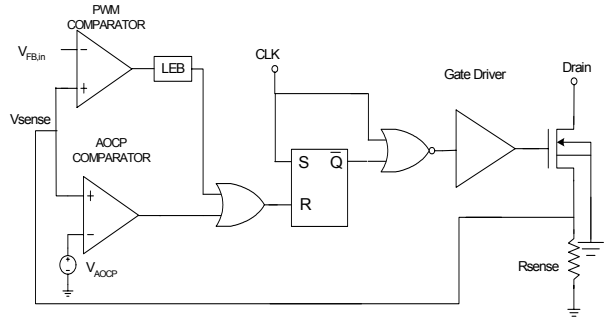

Figure 7. Abnormal Over Current Protection (AOCP)
**4.3 Abnormal Over Current Protection (AOCP) :** Even though the FPS has OLP (Over Load Protection) and current mode PWM feedback, these are not enough to protect the FPS when a secondary side diode short or a transformer pin short occurs. In addition to start-up, soft-start is also activated at each restart attempt during auto-restart and when restarting after latch mode is activated. The FPS has an internal AOCP (Abnormal Over Current Protection) circuit, as shown in Figure 7. When the gate turn-on signal is applied to the power Sense FET, the AOCP block is enabled and monitors the current through the sensing resistor. The voltage across the resistor is then compared with a preset AOCP level. If the sensing resistor voltage is greater than the AOCP level, pulse-by-pulse AOCP is triggered regardless of uncontrollable LEB time. Here, pulse-by-pulse AOCP stops the Sense FET within 350ns after it is activated.